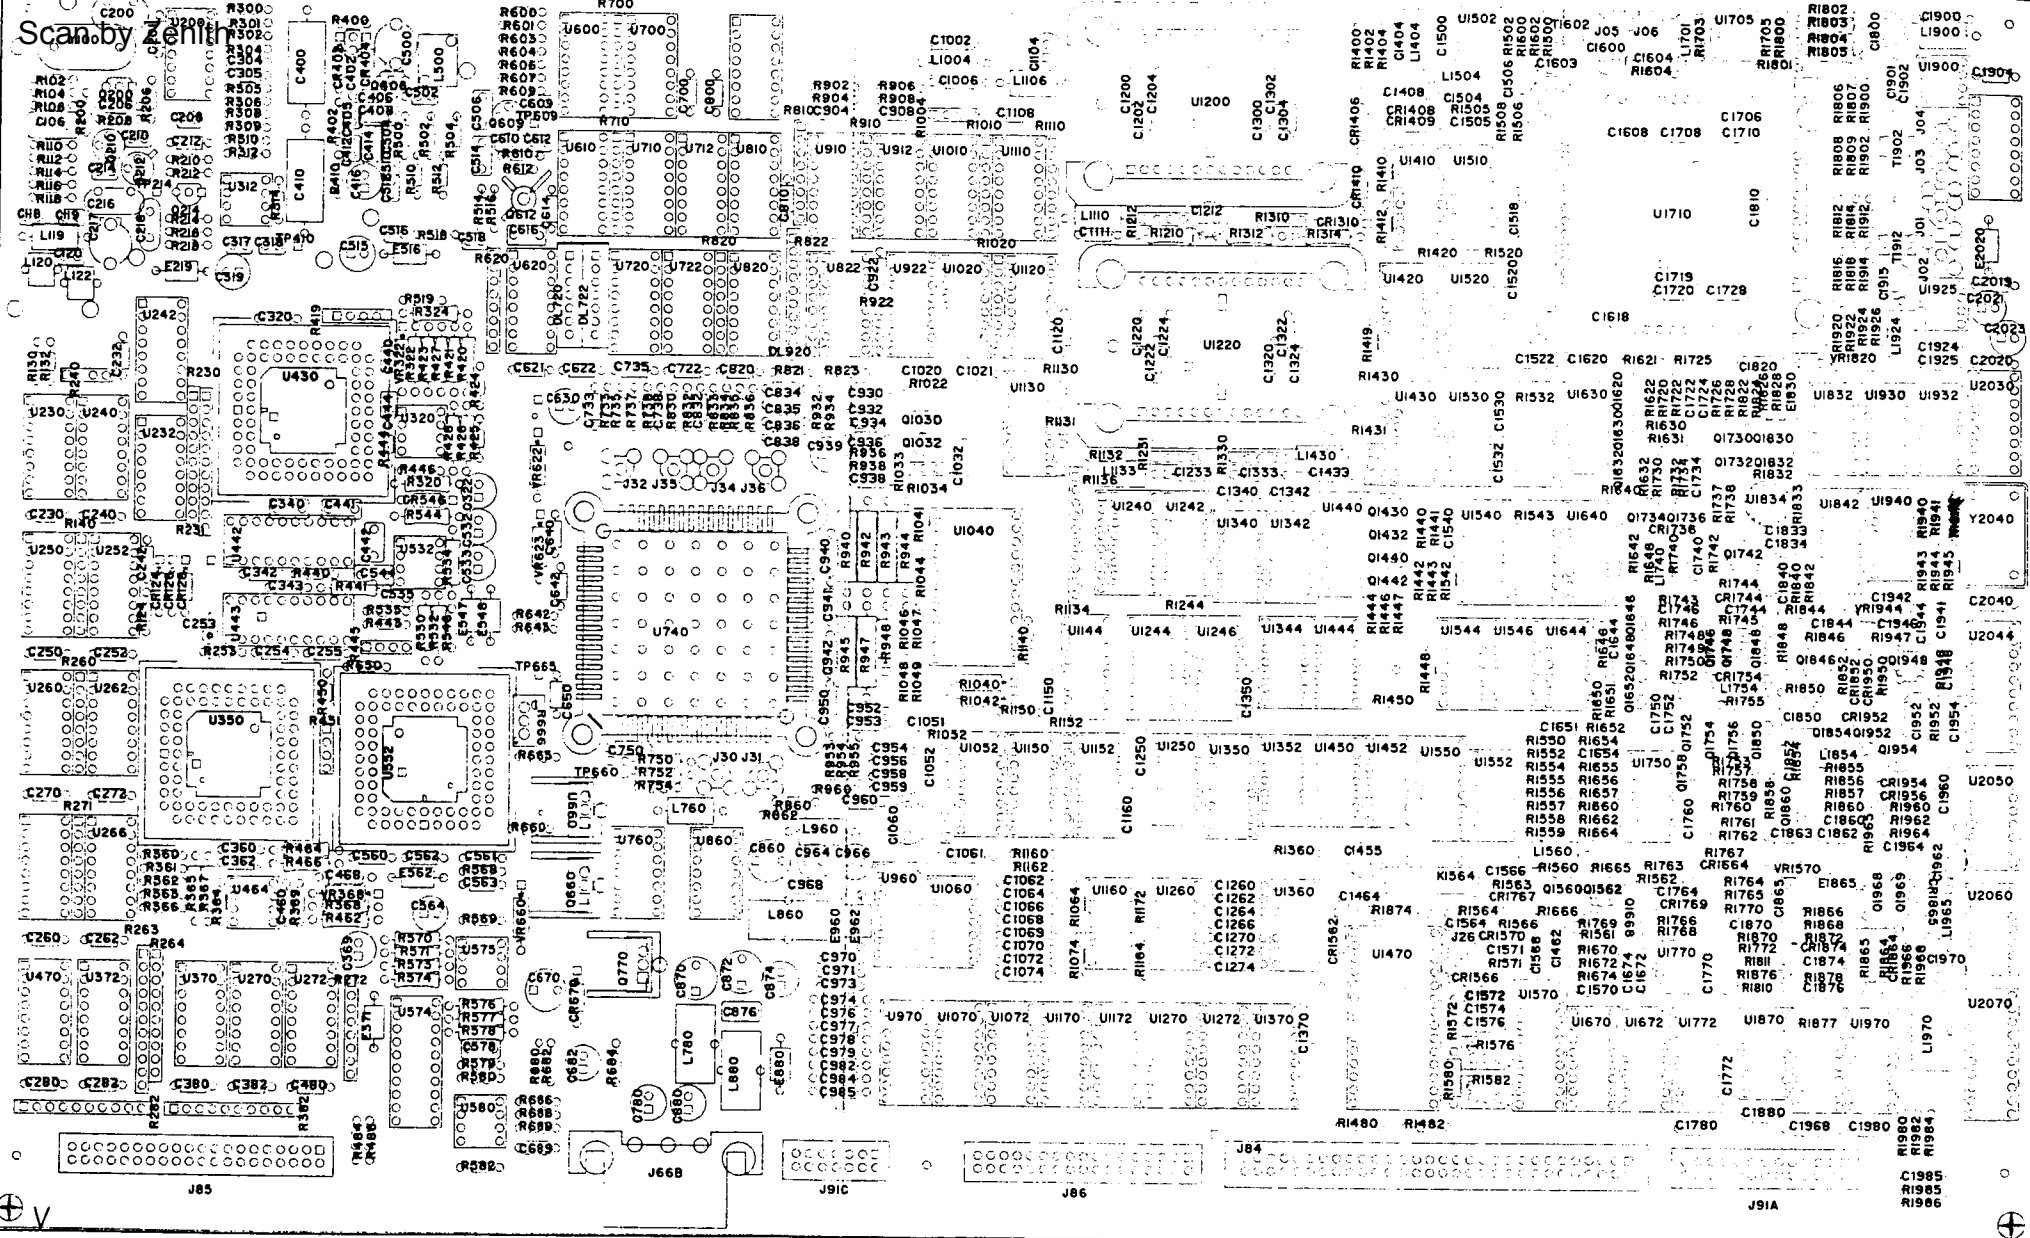

Figure 6. - Acquisition circuit board A5.
*R1877 resistor network is located on the Aquisition circuit board A5, refer to Figure 6.*
*While performing the modifications on the Acquisition circuit board refer to Figures 6, component locations.*